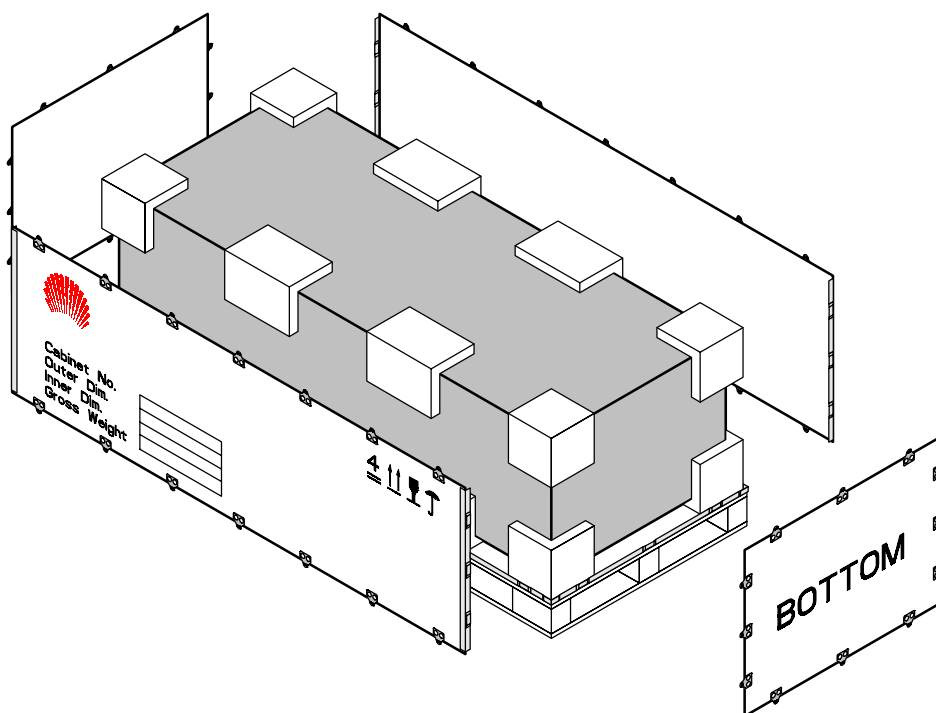

Figure 1-3 Removing all left wooden boards
- 4) Straighten all the tongues that join the wooden boards around the wooden case and remove the wooden boards, as shown in Figure 1-3.